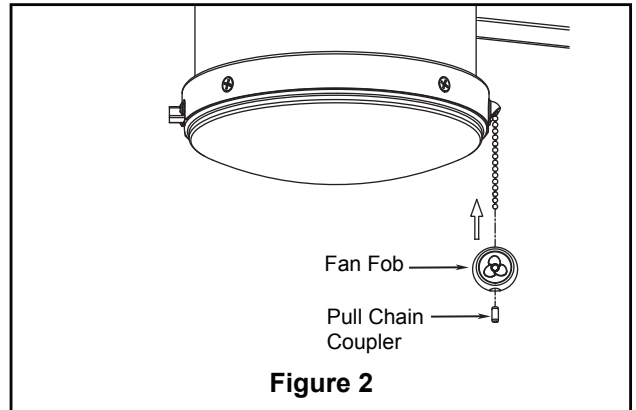

Figure 2
- 2. Remove one of the three screws in the support bracket of motor. Slightly loosen the remaining two screws. Assemble the switch housing to the support bracket using the two key slots in the switch housing. Replace the third screw and securely tighten all three screws. (Figure 2)
2. Install the fan fob and pull chain coupler. (Figure 2)